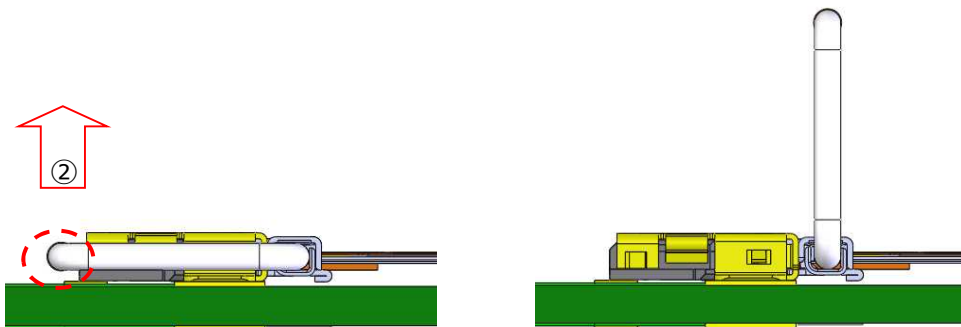

図 13 (Fig.13)
As Fig 12, ①, pull the one of ① points of LOCK BAR up towards ② direction to release the lock from the PCB side connector and turn LOCK BAR up to horizontal as Fig 13. As Fig 14, please make un-mating by pulling the horizontal part ③ in parallel to PCB.
**Caution:** Except for ① part, if you pull up the LOCK BAR towards direction ②, LOCK BAR would have deformation or the connector would have damage. Also, if you use Insulated part of LOCK BAR for Un-mating, LOCK BAR may deform. Please do not use it for Un-mating. Moreover, if you hit the metal or hard material onto the insulating part, the coating have possibility to peel off so that please understand to handle it carefully.